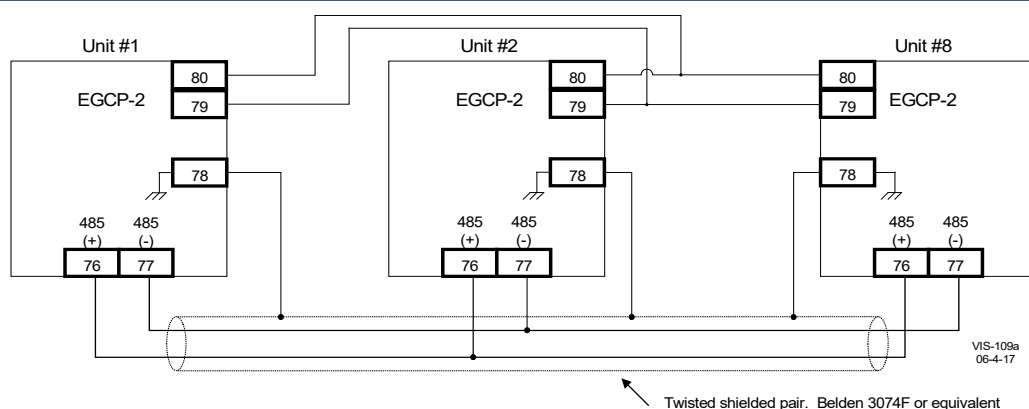

Figure 3-27. RS-485 Inter-Control Communications
1. The end controls must have the 485 network terminated (see Figure 3-27).